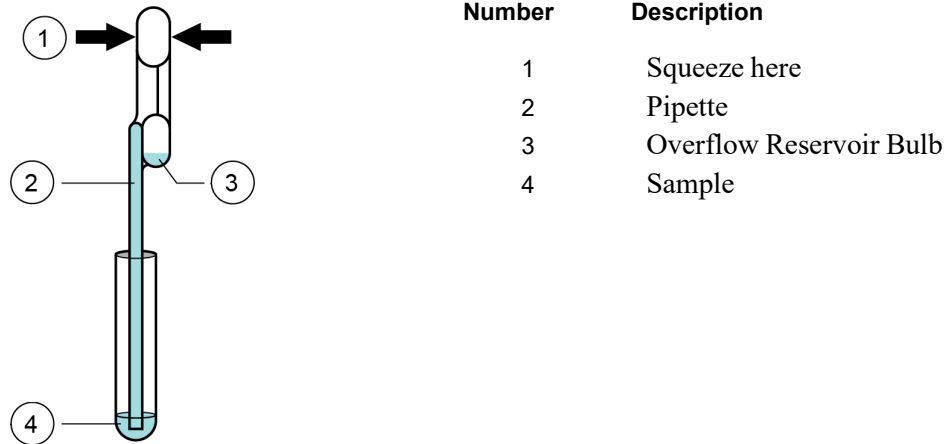

Figure 27. Transfer Pipette
14. Squeeze the top bulb of the transfer pipette completely until the bulb is fully flat. While continuing to hold the bulb fully flat, place the pipette tip in the specimen transport tube (see Figure 27).
15. Keeping the pipette below the surface of the liquid, release the top bulb of the pipette slowly to fill the pipette before removing from the tube. It is okay if liquid goes into the overflow reservoir (see Figure 27). Check that the pipette does not contain bubbles.